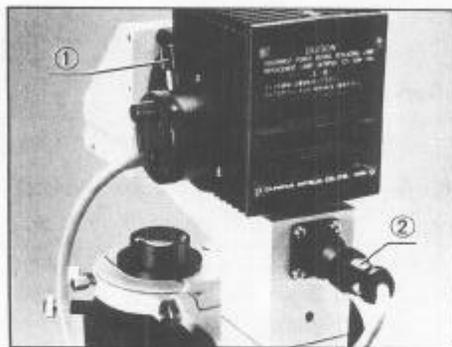

Fig. 12
Insert the socket into the lamp housing and clamp with knob ①. (Fig. 12)